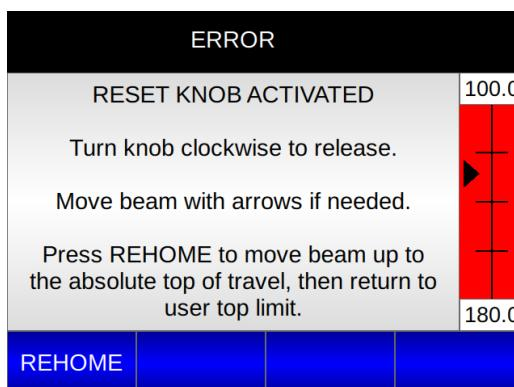

Figure III.1
- 1) Stop the test in progress and display an error message as shown in Figure III.1.